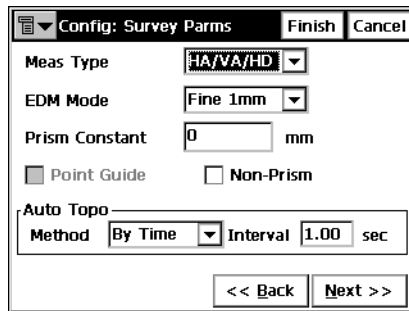

Figure 3-54. Config: Survey Params. Second Screen.
10. In the next *Config: Survey Params* screen, set the following parameters (Figure 3-54 on page 3-38):